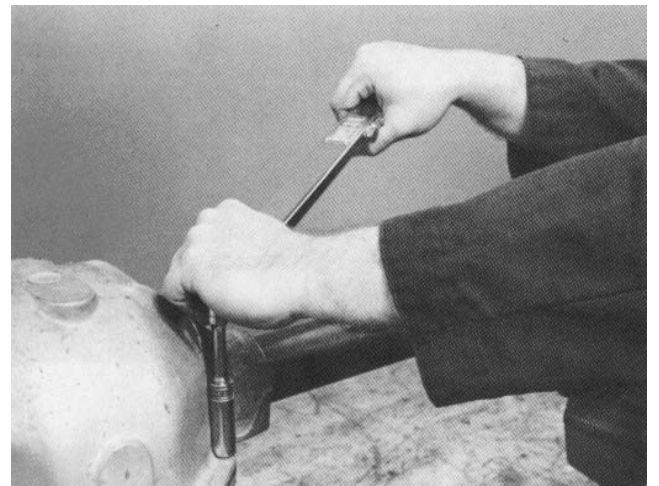

Figure 54
22. Apply silicone sealant between the front and rear axle housings and install the eight housing cap screws. Tighten the cap screws to a torque of 18-23 ft-lbs. (24-31 Nm) (Fig. 54).